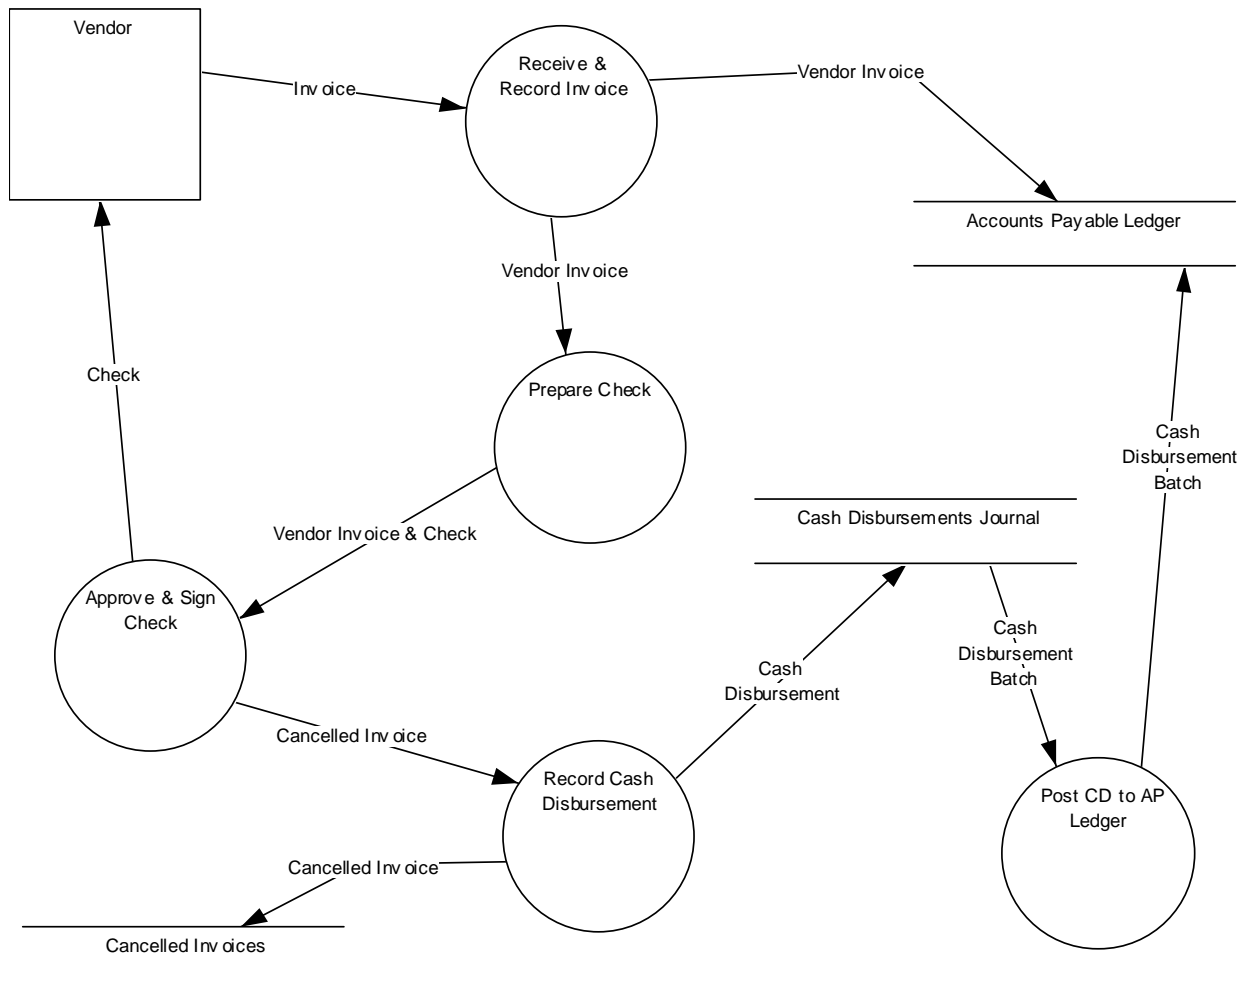

Figure 3. The Accuflow Cash Disbursements System: Level 0 Diagram
The Accuflow level 0 diagram for cash disbursements processing is illustrated in Figure 3. Enter it as follows.
2. Add five processes as illustrated in Figure 3 by double clicking the process icon and then clicking five times in the drawing area. Double click the pointer icon to make it the default. Name the processes as illustrated in Figure 3.